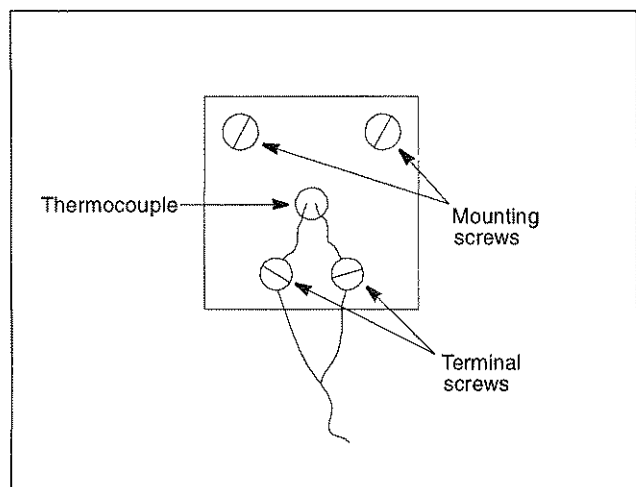

Figure 3. Thermocouple Replacement
Refer to Figure 3 as you perform the following procedure:
4. Slide out head and old thermocouple (refer to Figure 3).